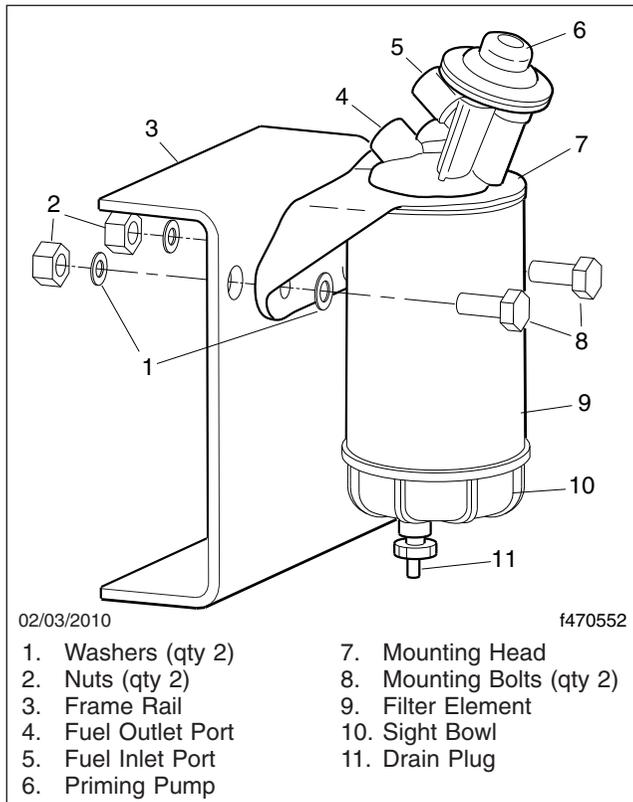

Fig. 12.5, Alliance Fuel/Water Separator Assembly and Installation
- 8.3 *Alliance/Racor Models:* Turn the drain plug counterclockwise to open it. See Fig. 12.5.